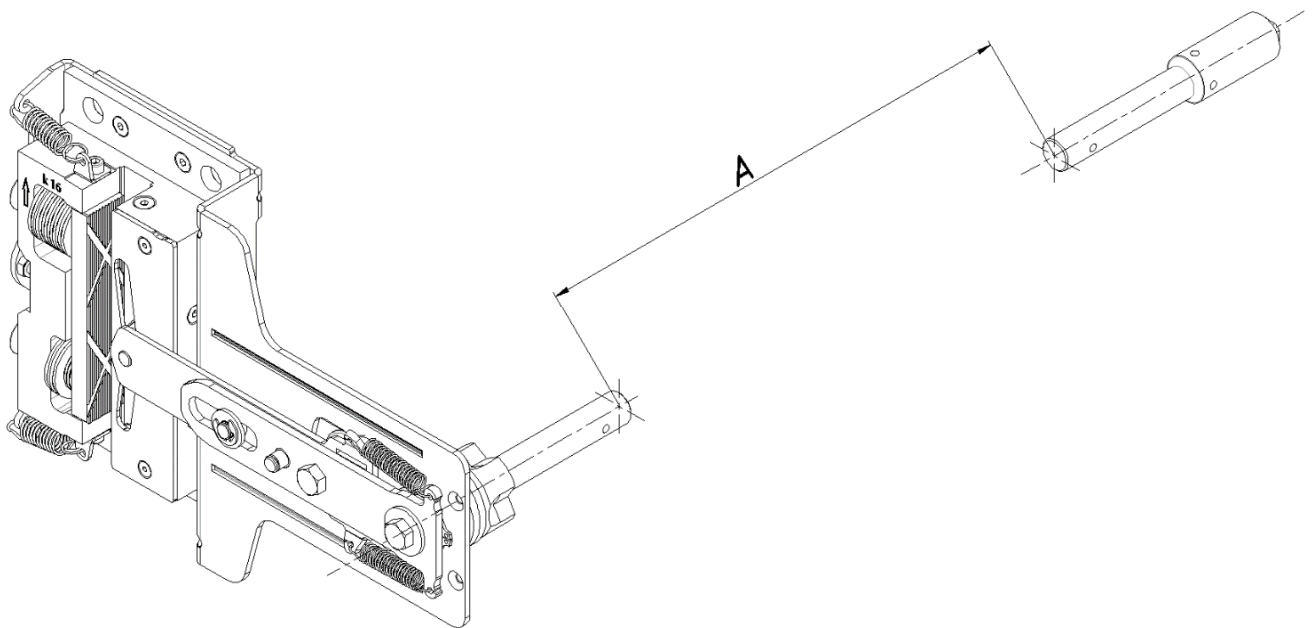

FIGURE 5
- 1- Measure the distance A between the safety gear lever shafts of the safety gears mounted on the suspension. (Figure 5)